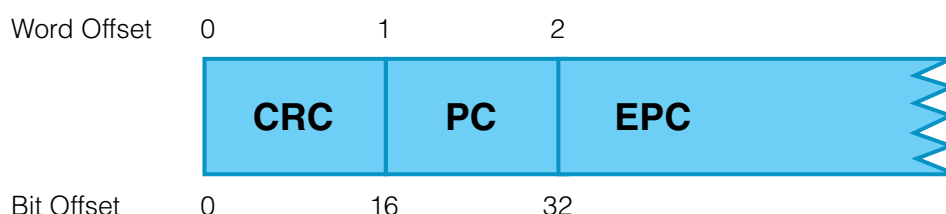

FIGURE 1 EPC MEMORY BANK - LOGICAL LAYOUT
Before looking at the EPC programming process it will be useful to review the layout of the tag's EPC memory bank. The EPC memory bank holds the Electronic Product Code (EPC), the Protocol Control (PC) word and the 16-bit cyclic redundancy check (CRC). The PC word is one sixteen bit word and defines the length as well as other properties of the EPC. The EPC is the actual identifier for the transponder (it can be many words in length). The CRC is a single word and is the checksum calculated across the PC and EPC. When stored in the EPC memory bank the first word is the CRC, the second word is the PC and the remainder of the memory bank stores the EPC. In an inventory response, the amount of the memory bank returned for the EPC is determined by the PC. Figure 1 illustrates the EPC memory banks logical structure.